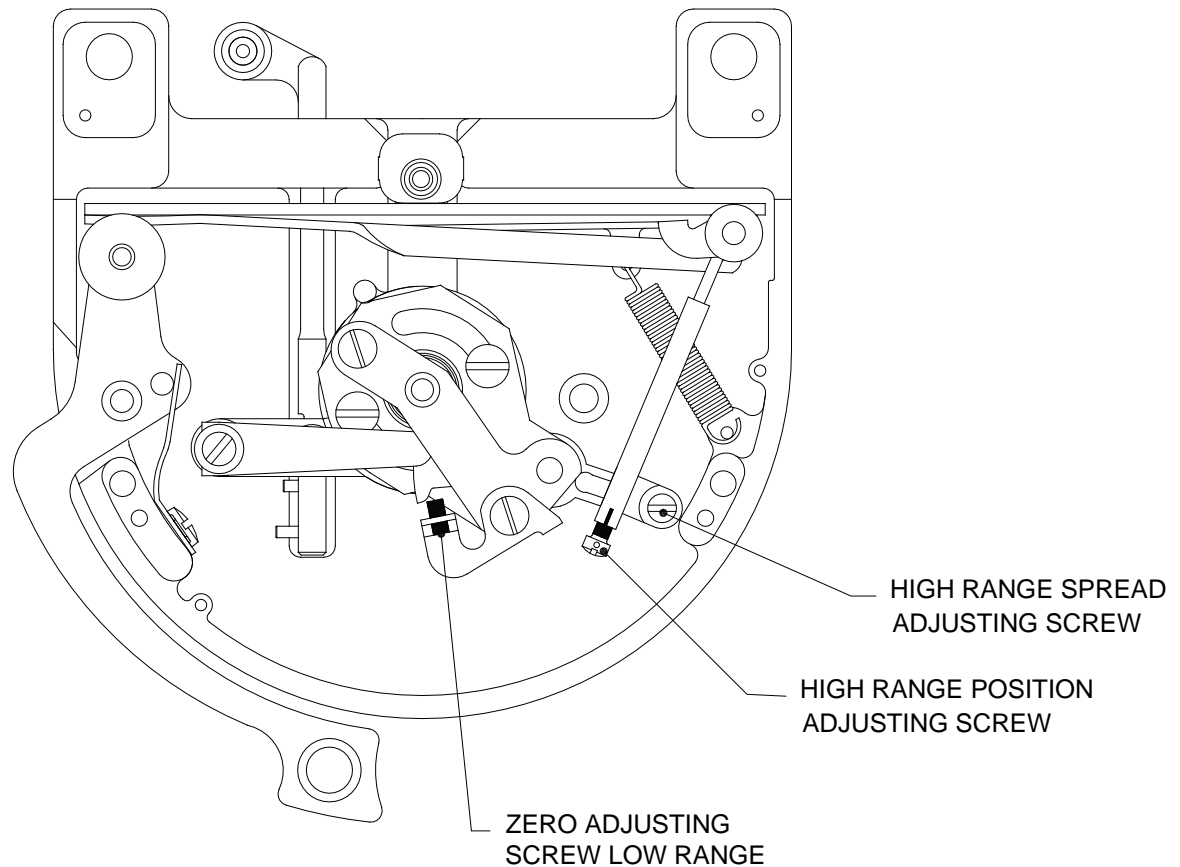

Figure 8-Adjustment High and Low Screw
- 6-1. **GENERAL-** Testing and adjustment procedures require that a satisfactory calibration device be available. One such device is shown in Figure 8.
- f. If the range spread is incorrect, that is, the high reading is too high and the low reading is too low, it may be adjusted by adjusting the position of sleeve assembly (See Figure 8) where it attaches to the slotted arm of the movement. Loosen High Range Spread Adjusting Screw. With High Range Spread Adjusting Screw loose the sleeve assembly can be moved in toward the movement if the range spread is too small (i.e., if high reading is low and low reading is high), or away from the movement if the range spread is too great (i.e., the high is too high and the low reading too low). This is a delicate adjustment requiring only a small amount of movement and should be made carefully. When the adjustment has been made and the range spread is within limits, tighten High Range Spread Adjusting Screw. (See Figure 8)